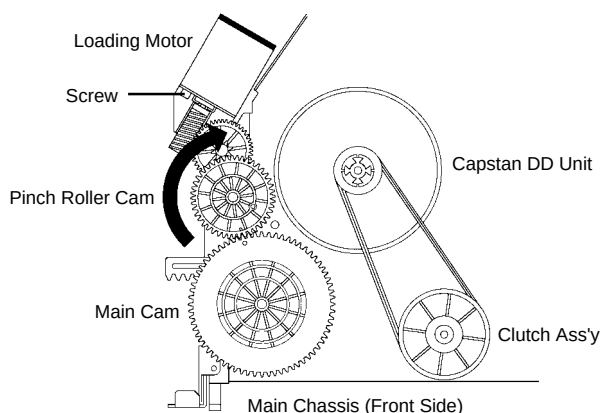

Fig. 2
1. Remove the Top Cabinet, Front Cabinet and DVD Block. **(Refer to item 1 of the DISASSEMBLY INSTRUCTIONS.)**
3. Rotate the Pinch Roller Cam in the direction of the arrow by hand to slacken the Video Tape. **(Refer to Fig. 2)**